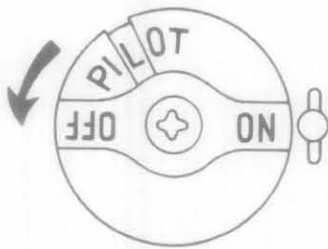

Figure 5
3. Turn gas valve knob (located behind fryer door) to ON position. See Figure 5.